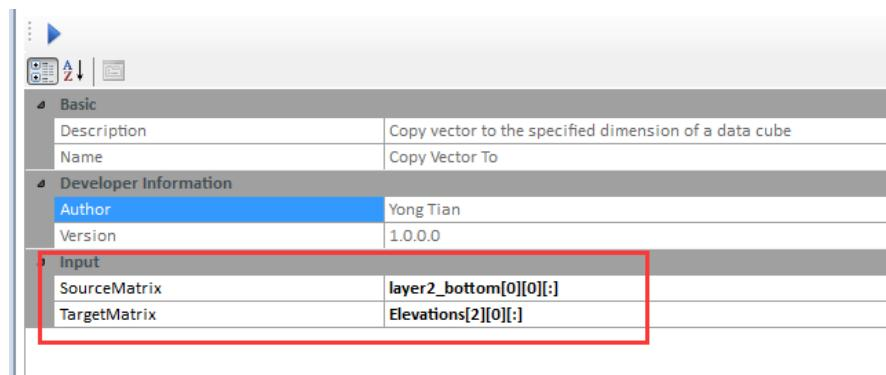

Figure 5-26. Copy values to the Elevation data cube
- 13) Double click the “Copy Vector To” tool, set Input as shown in Figure 5-26, and click Run.